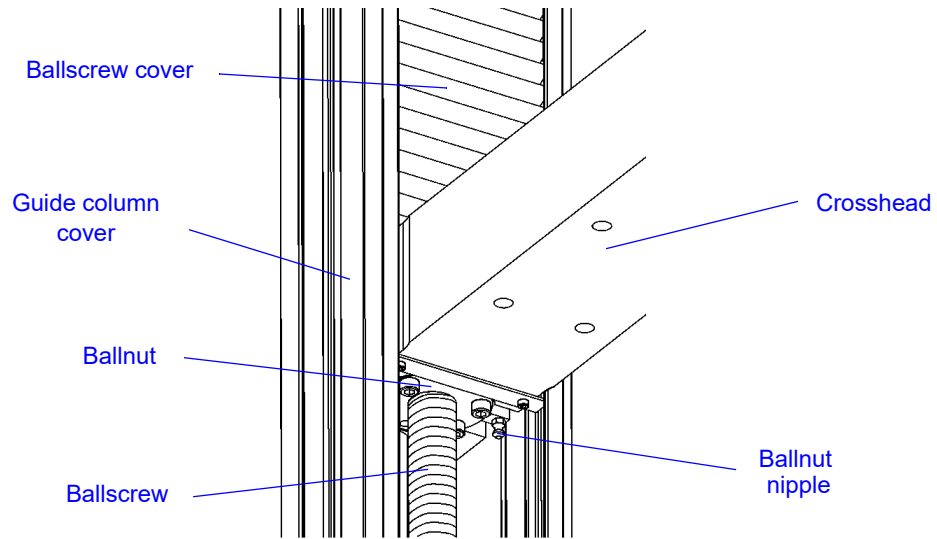

Figure 5-1. Ballscrew Lubrication Points
2. Detach the bottom ballscrew cover from the crosshead and slide it to the frame base. Refer to Figure 5-1 on page 5-6 to locate the ballnut nipple inside the column cover.
3. Use a grease gun to apply the grease through the ballnut nipples on both columns as shown in Figure 5-1. It is not necessary to remove the guide column covers.